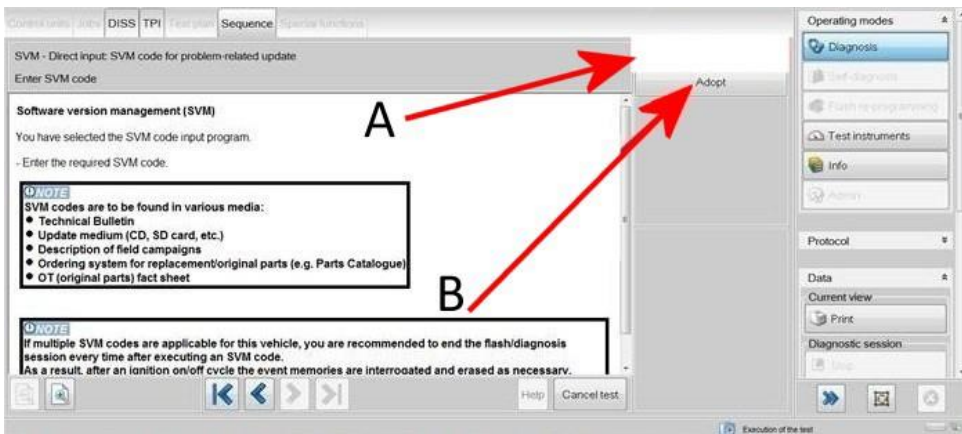

Figure 2
2. Referring to Figure 2 (Point A) enter the SVM code 37008SW3021